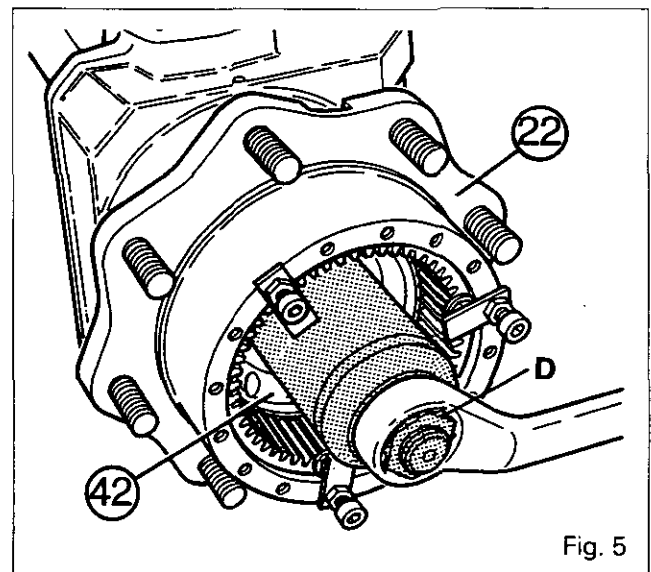

Fig. 5
Fit the ring gear carrier/hub assembly using the following tools (Fig. 5):
63. The steering lock stops are adjusted (Fig. 5) by adjusting the bolts (48). See the data below, according to the required steering lock. After this adjustment, tighten the nut (49).